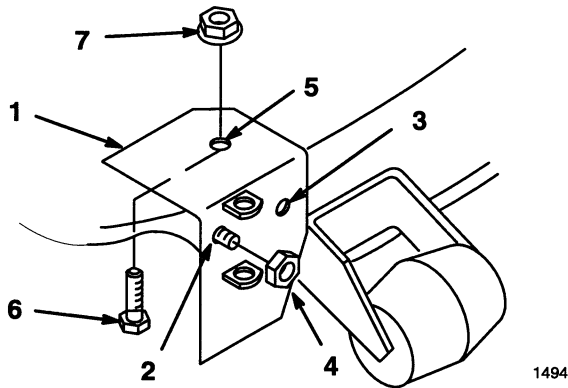

Figure 13
11. Select proper hole (42" outside, 48" inside) and slide pivot support over threaded stud welded to front of mower near discharge opening (Fig. 13).
12. Align pivot support parallel with front curved edge and tight against top of mower (Fig. 13). Clamp in this position.
13. Drill  $11/32$ " diameter hole in top of mower using the pivot support as a guide. Secure pivot support to the mower with a  $5/16 \times 3/4$ " bolt, through from the underside of the mower, and a flange nut (Fig. 13). Place  $3/8$ " washer and  $3/8$ " jam nut (removed from discharge chute) snug onto stud. Do not overtighten jam nut.